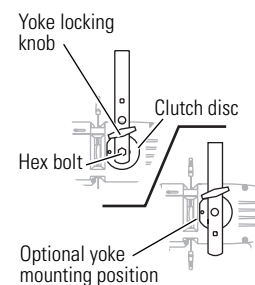

Figure 2
2. Move the fixture to the desired position (**Figure 2**).